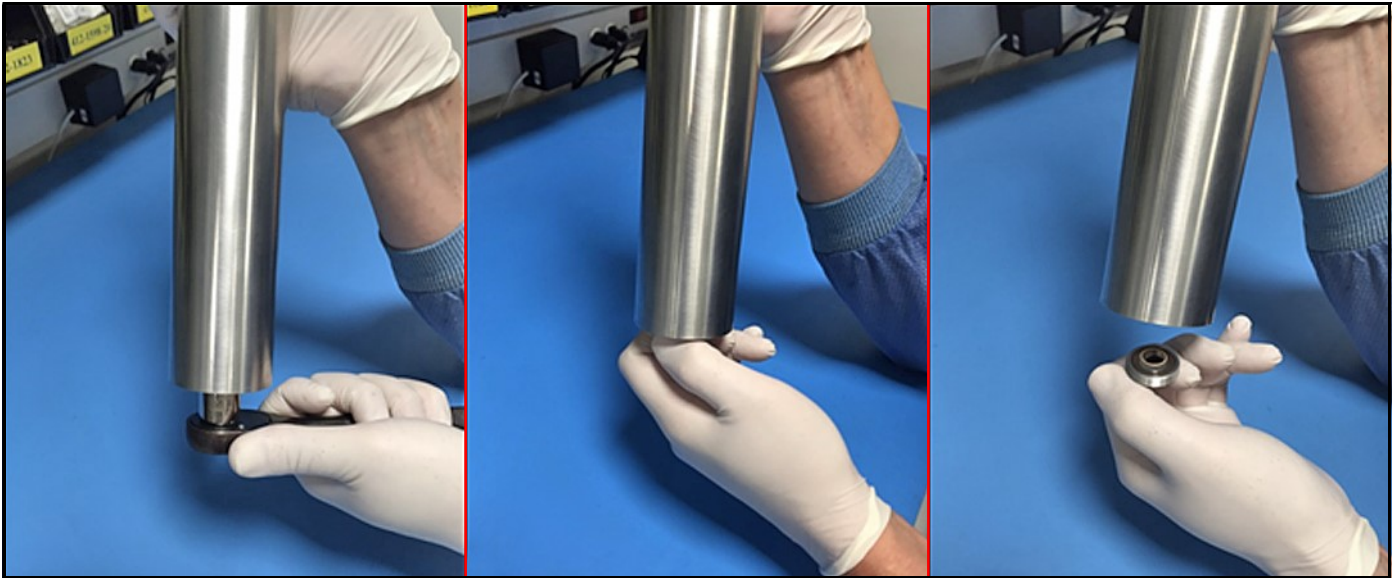

Figure 54: Removing Mirror End Cap Assembly from the Absorption Cell
- Using a  $5/8$ " socket wrench to loosen the hex head of the mirror assembly, gently unscrew the mirror assembly from the bottom of the absorption cell. While *Figure 54* below shows this procedure for a dismantled cell, it is **NOT** necessary to dismantle the optical absorption cell assembly to remove the mirror.